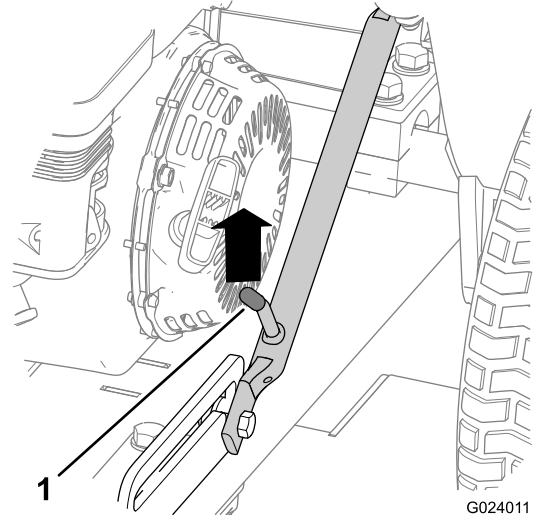

Figure 7
4. Push up on the hitch assembly until the latch lever is unlocked from the slide detent (Figure 7).